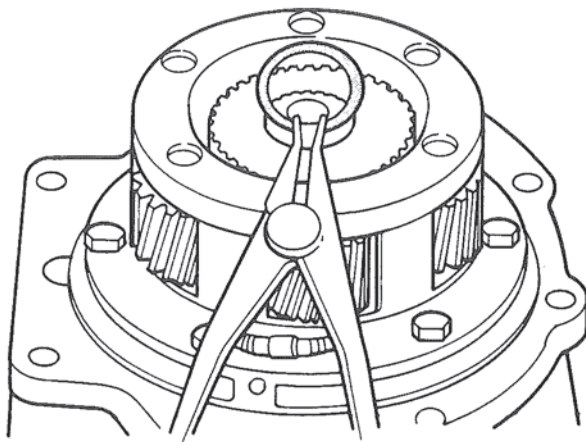

Figure 5. Removing Snap Ring.
1. Remove snap ring, which retains sun gear to output shaft. Figure 5.